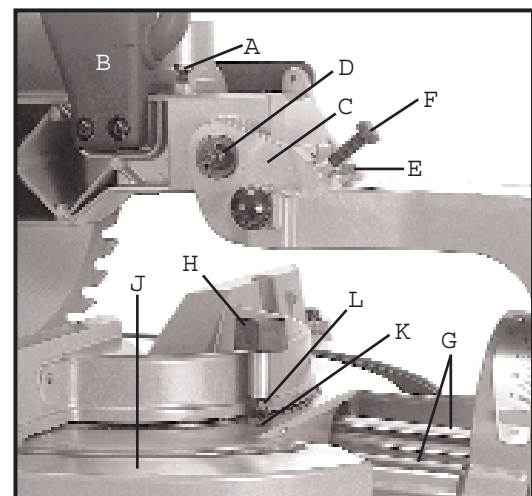

Fig. 34
The tension of the cuttinghead return spring has been adjusted at the factory in order that the cuttinghead returns to the up position after a cut has been made. If it ever becomes necessary to re-adjust the spring tension, proceed as follows: Turn adjusting screw (A) Fig. 34, clockwise to increase or counterclockwise to decrease the spring tension.
After a long period of time it may become necessary to adjust the sliding fit between the cuttinghead arm (B) Fig. 34, and the trunnion (C) by tightening nut (D). Correct adjustment is when a good snug sliding fit is obtained between these two parts. This adjustment should not be too tight that it restricts the sliding movement of the cuttinghead arm (B) or too loose that it affects the accuracy of the saw cut.
The downward travel of the saw blade was adjusted at the factory to prevent the saw blade from contacting any metal surfaces of the machine. If an adjustment is ever necessary to limit the downward travel of the saw blade for operations such as dado cutting (see section of manual on DADO CUTTING), loosen wing nut (E) Fig. 34, and make adjustment by turning adjusting screw (F). Tighten wing nut (E) after adjustment is completed.
The cuttinghead guide rods (G) Fig. 34, can be locked in place in order to use the saw as a conventional miter saw (using the saw as a chop saw instead of a sliding saw) by tightening lock knob (H). When using the saw as a chop saw, the cuttinghead should be all the way to the rear position before locking in place.
To adjust the sliding fit between guide rods (G) Fig. 34, and table assembly (J), remove lock knob (H) and loosen locknut (K). With wrenches provided, hold locknut (K) while turning adjusting nut (L) clockwise to increase or counterclockwise to decrease the sliding action of the guide rods (G). This adjustment should not be too tight that it restricts the sliding movement of the rods or too loose that it affects the accuracy of the saw cut. When correct adjustment is made, hold adjusting nut (L) and tighten locknut (K) with wrenches provided. Replace lock knob (H). Periodically lubricate guide rods (G) using a light oil or spray lubricant to keep the guide rods (G) sliding smoothly.